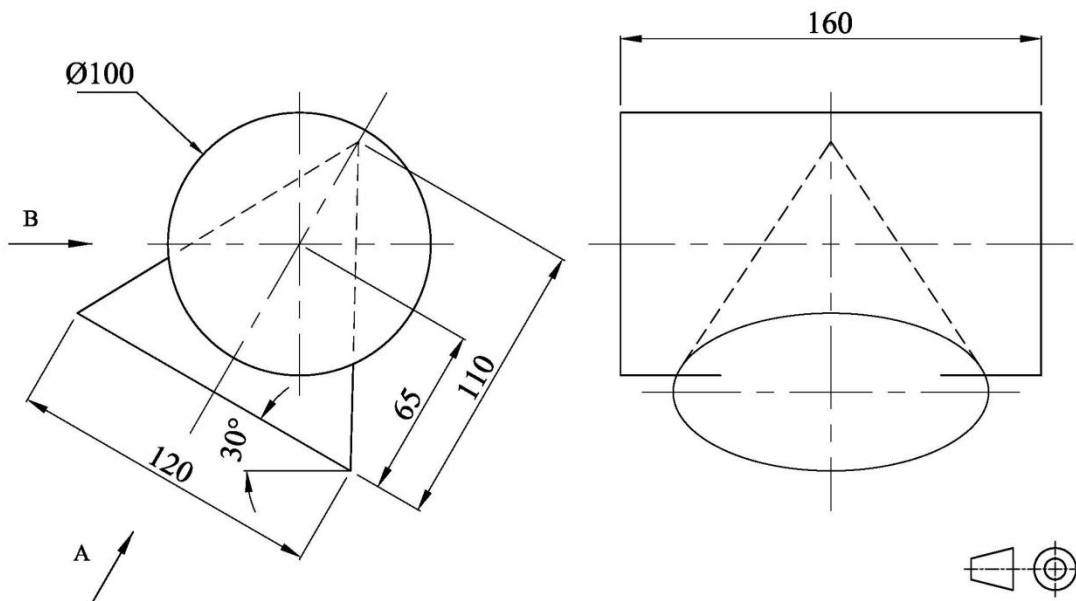

Figure 5b
- Draw, full size, the elevation of the 100 mm diameter cylinder (solid shaft) together with the right cone (recess) shown in Figure 5b. The base of the cone is 120 mm diameter and the perpendicular height of the cone is 110 mm. The elevation is to be drawn with the centre-line of the conical hole oriented at 60° to the horizontal plane, as shown in Figure 5b. (4)
- Present an auxiliary view in the direction of the arrow A, showing the cylindrical solid shaft with the pierced conical recess. Generate the outline profile curve of the recess. (4)
- Complete the shown elevation, the one representing the view in the direction of the arrow B, by showing the conical recess in the cylinder. Use light curves and light lines for the base of the cone. Show the curve of intersection representing the outline profile of the recess in bold. (5)